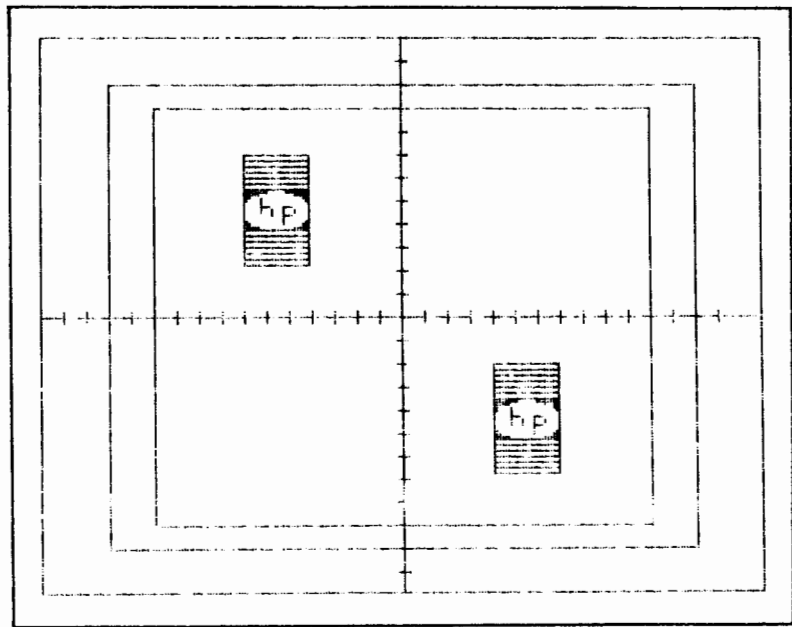

Figure 8-4. CRT Test Pattern 3
f. The "pincushion" test pattern (CRT test pattern 3) shown in figure 8-4. This remains for about 3 seconds.